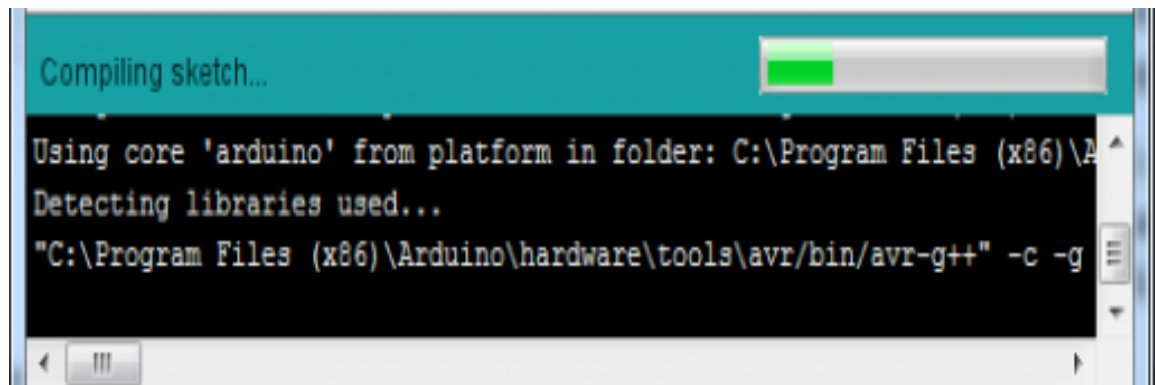

Figure 8.1 Code Compiling Sketch
- The figures 8.1 and 8.2 shows that the code is compiled successfully.